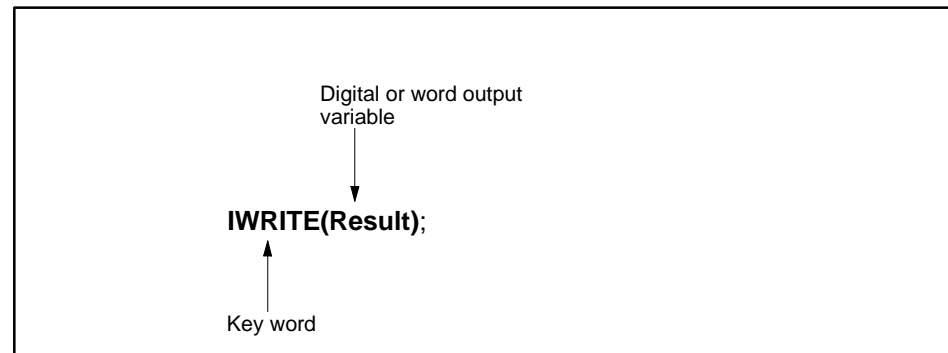

Figure 11-26 IWRITE Procedure
- The variable in parentheses must be a digital or word output from a supported module in base 0 for Series 505 controllers; the module can be located in any base for an S5 controller. See the example in Figure 11-26.